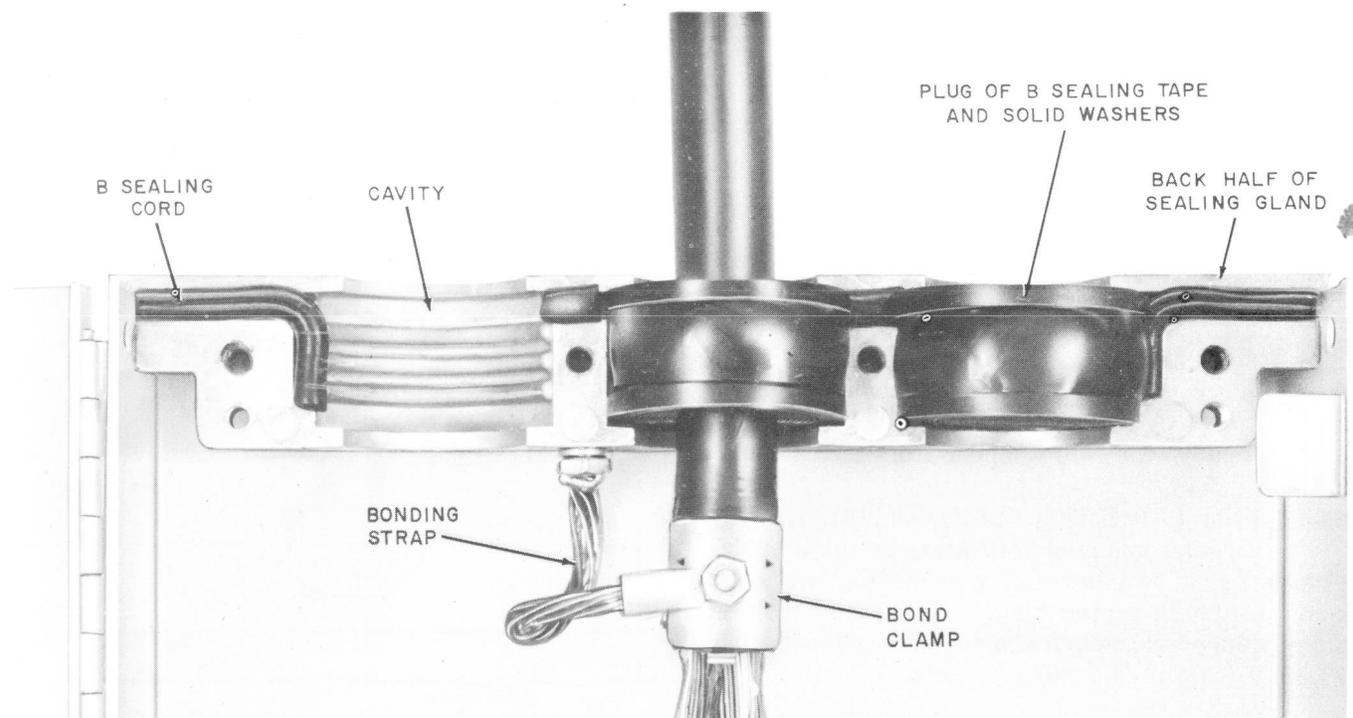

Fig. 8—Cable Placed in Gland
4.08 Place the B sealing cord in the grooves as shown in Fig. 8. The unused cavities should be sealed with a solid plug of 3/4 inch wide B sealing tape with solid sealing washers of proper size on each side of the plug. Connect the free end of the bonding strap to the rear half of sealing gland with the hex head screw (Fig. 8).